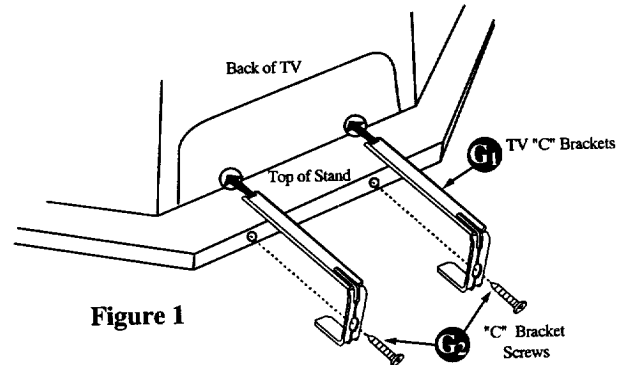

Figure 1
1. Attach the "C" brackets as shown in Figure 1.